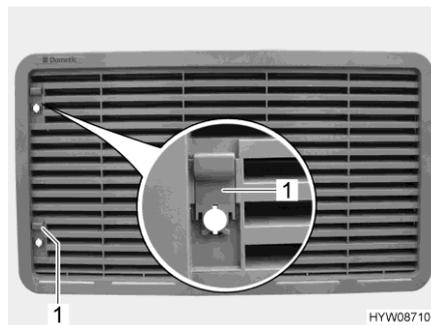

Fig. 142 Refrigerator ventilation grill
- Push sliding trap (Fig. 142,1) upward.